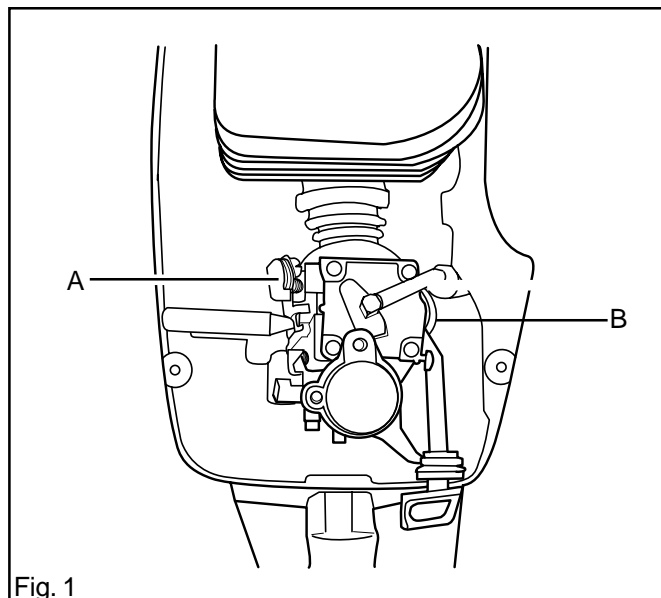
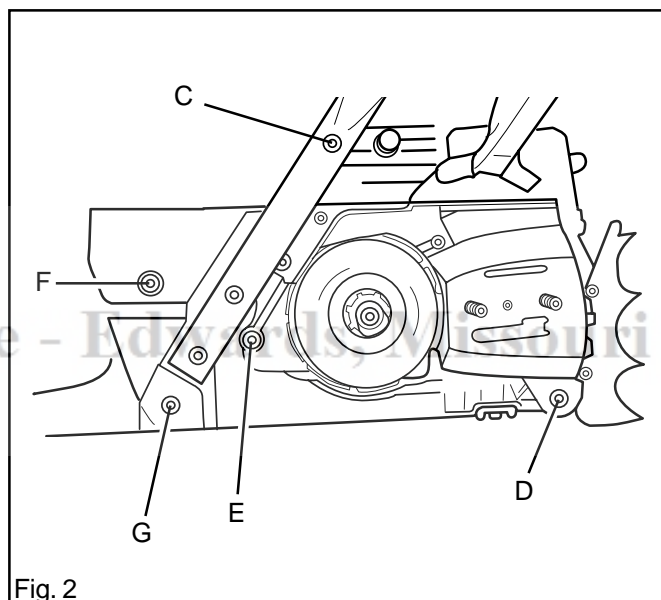

Fig. 1
Fig. 2
3. Unhook the throttle cable (A) from the carburettor and push out the cable casing from its attachment. See fig. 1.
4. Remove the fuel pipe (B) from the carburettor.
5. If the chainsaw is fitted with hand grip heating, release the cable at C. See fig. 2.
6. Remove the bolts (C, D, E and F). See fig. 2.
9. If the tank guard (chain deflection/break) (G) is damaged, it must be replaced. See fig. 2.
10. If necessary, lift out the fuel pipe and pull off the fuel filter. Use tool 502 50 83-01, see pos 17, page 9.